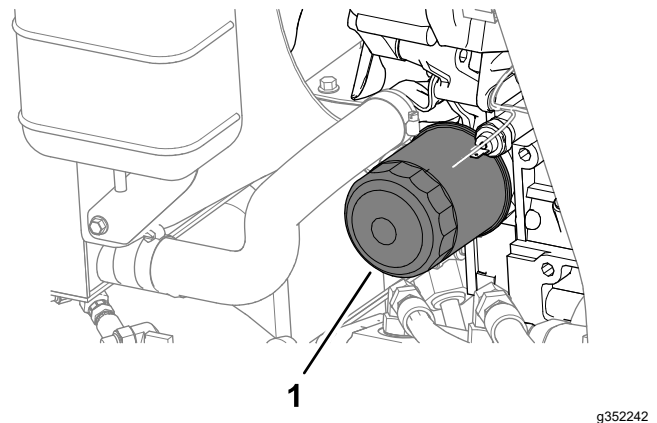

Figure 64
4. Remove the oil filter (Figure 64).